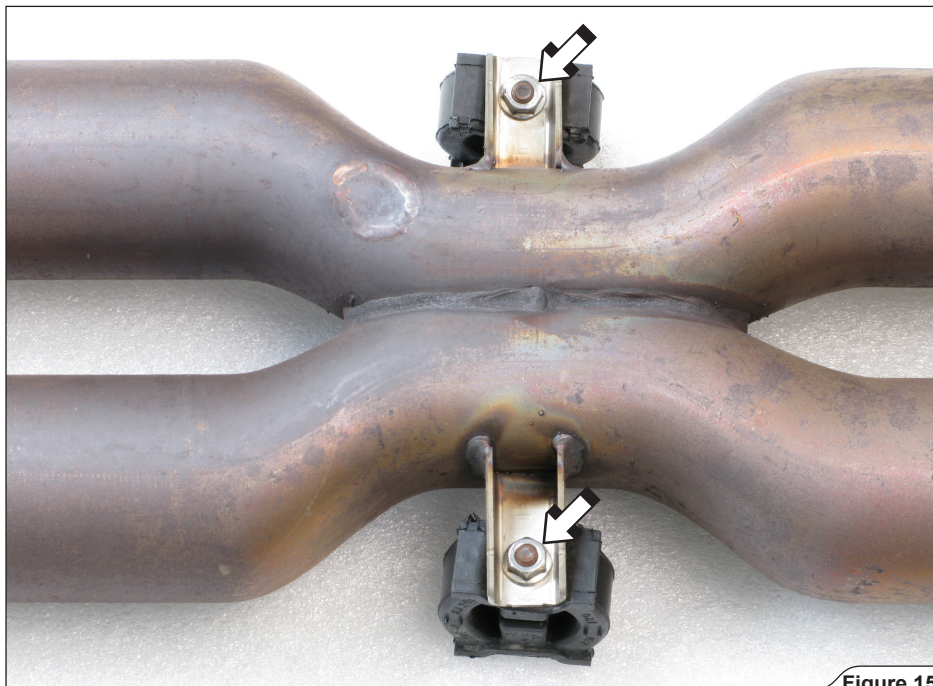

Figure 15
12. Unscrew the marked nuts and remove the rubber brackets off the collector (Figure 15).